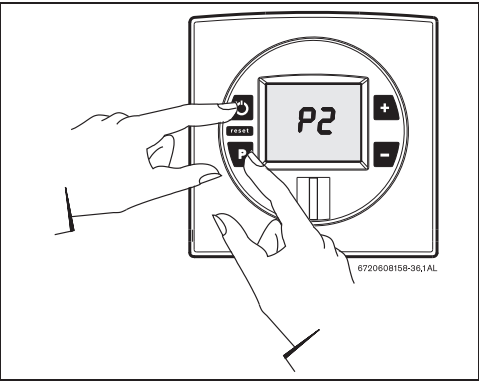

Fig. 47
- Press and hold "Program" button and press ON/OFF button to turn appliance ON (see Fig. 47 ).